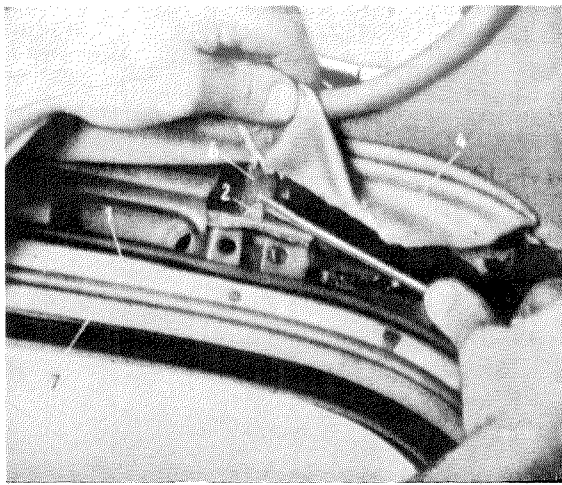

Fig. 69 — 2/3
9. Instead of bows, small cardboard strips (6) are used to fasten the side parts of the headlining (4) at the left and at the right (Fig. 69 — 2/3). Both ends of the cardboard strips engage in the side rail. On removal use a screw driver to bend the lower hook (2) upward and then remove the cardboard strip (6) to the side and downward.